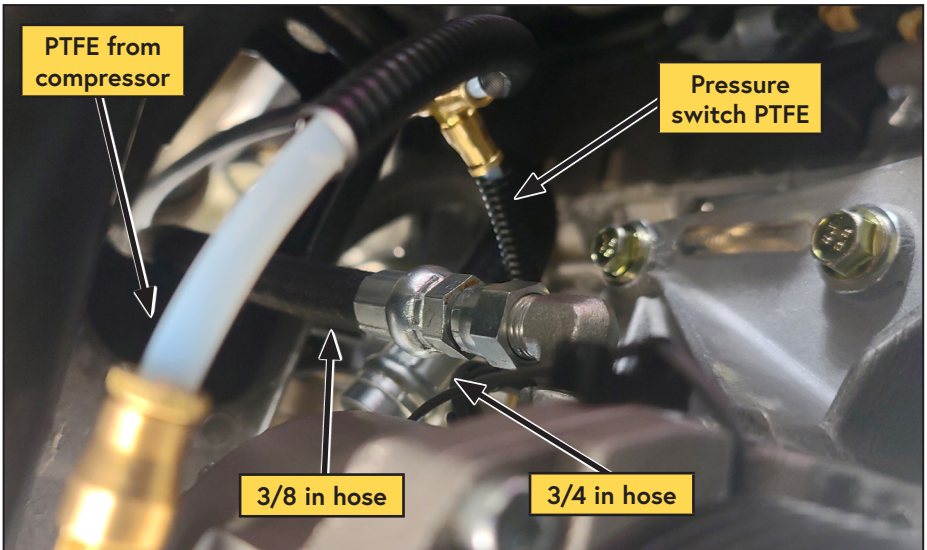

Figure 29 — Install hoses
- Route the 3/4 in and 3/8 in hoses, as well as the 1/4 in PTFE tube, over the frame crossmembers and steering rack (Figure 29).